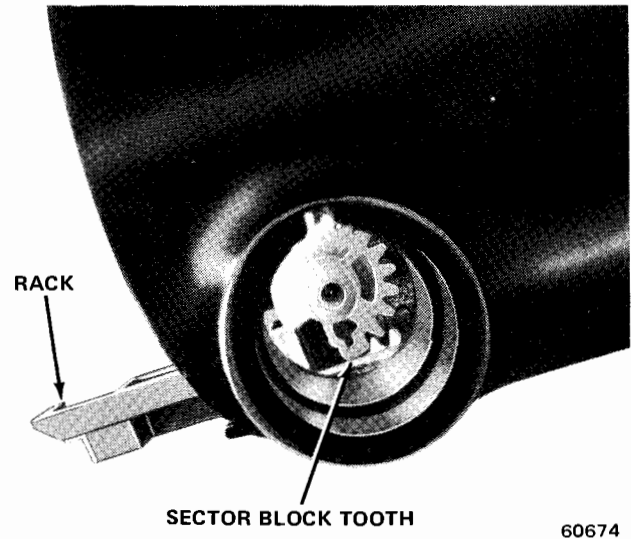

Fig. 11-20 Installing Lock Bolt and Rack
- (4) Install assembled lock bolt and lock rack in housing (fig. 11-20). Mate block tooth on rack with block tooth on sector (fig. 11-19 and 11-20).